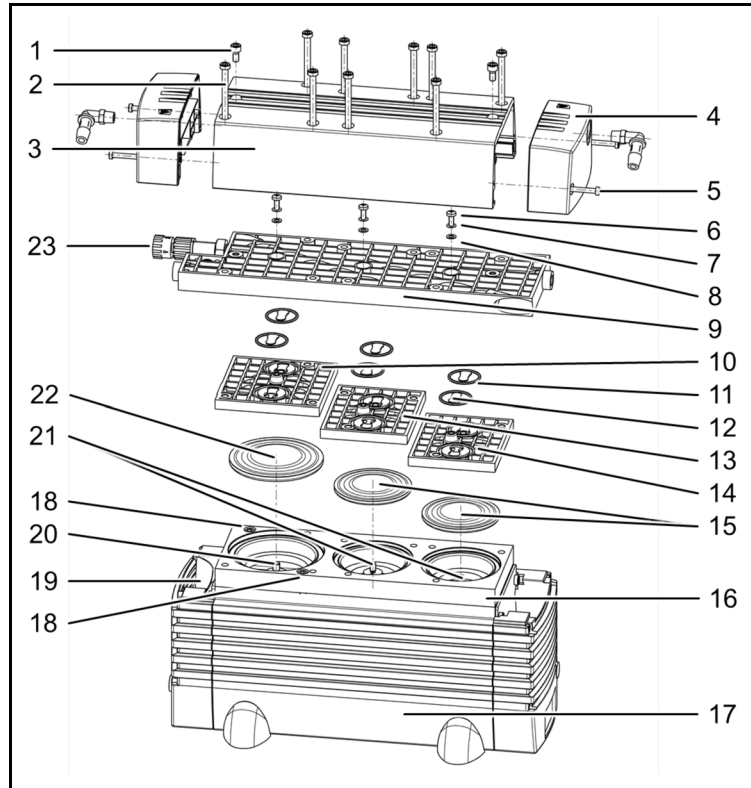

Fig. 14: Pump (exploded drawing, symbolic)
2. Undo the two screws (Fig. 14/1) and nine screws (2) of the head cover (3).
3. Undo two screws (6) each, and remove both covers (5) at head cover (4).
4. Lift the head cover (3) off the pump housing (17).
5. Lift off head plate (9) with intermediate plates (10), (13) and (14).